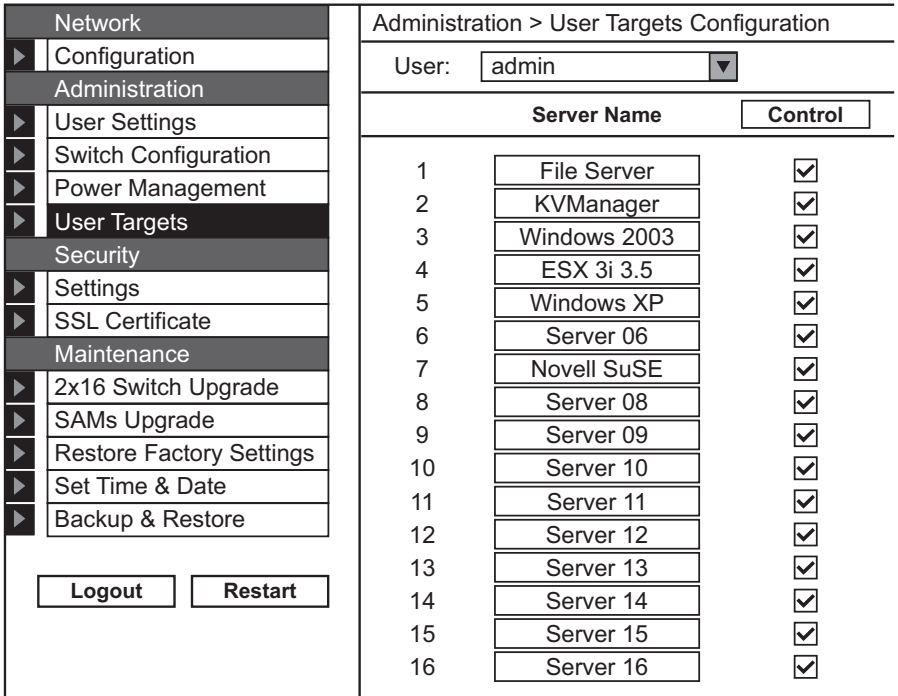

Figure 8-1. User Targets Configuration.
1. From the menu click User Targets. The User Targets Configuration window appears (see Figure 8-1).